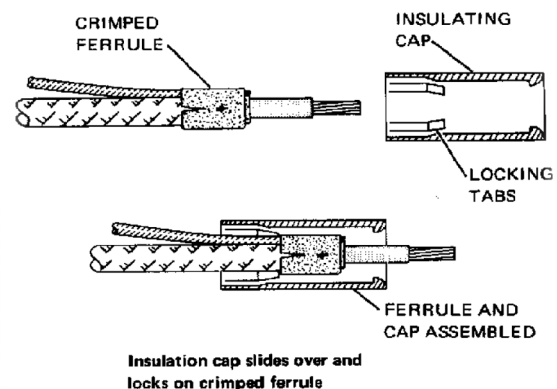

Figure 12
- Place insulating cap on ferrule as shown in Figure 12.